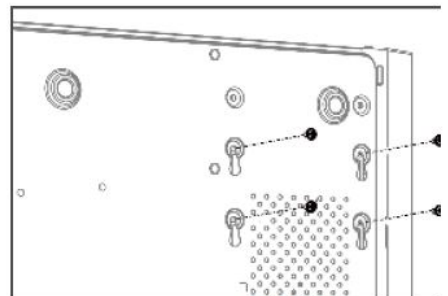

Figure 2-3 Fix HDD
STEP 3 Match HDD screw threads with the reserved holes on the device bottom, and fix HDD with screws. Refer to Figure 2-3.